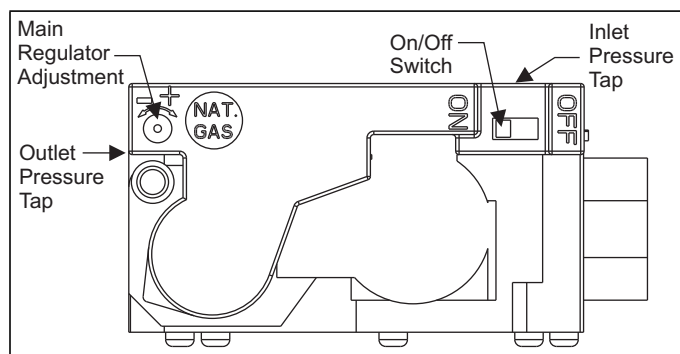

FIGURE 41: Gas Valve
Inlet and manifold gas pressure may be measured by connecting the "U" tube manometer to the gas valve with a piece of tubing. Follow the appropriate section in the instructions below. Refer to Figure 41 for the locations of the pressure ports on the gas valve.
4. Refer to Figure 41 for location of pressure regulator adjustment screw on main gas valve.